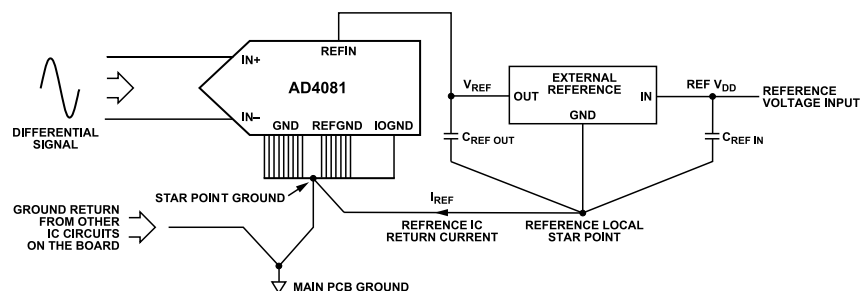

Figure 109. AD4081 External Reference Ground Connections
- ▶ Recommended connections of ground (GND), reference ground (REFGND), and digital ground (IOGND) connections are shown in Figure 109. It is recommended to not keep the current return path of the reference IC in the same current loop as the current return loop from the other circuitry on the PCB. Connect the reference local star point to the ADC star point ground on the top layer of the PCB as shown in Figure 109.